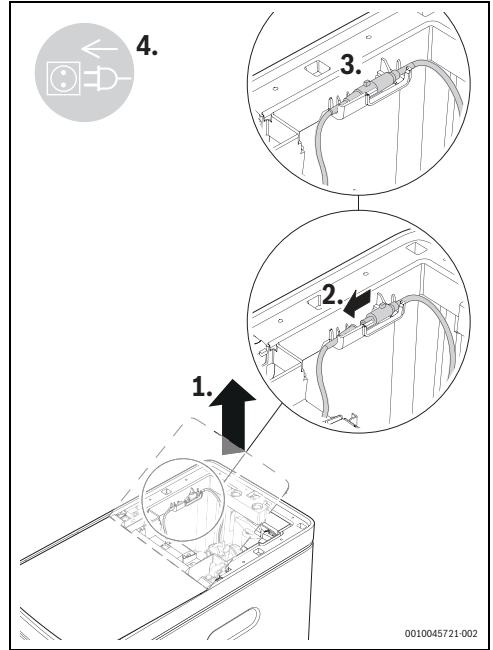

Fig. 7 Connecting the terminal of the power adapter
1. Connect the terminal of the power adapter to the power connector of the control valve. Insert it into the limit slot in the middle frame and then close the top cover (→Fig. 7).